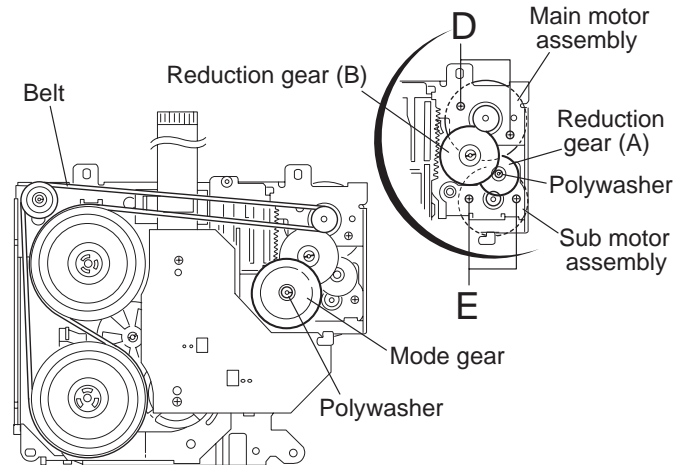

Fig.40
2.2.22 Removing the main motor assembly / sub motor assembly (See Fig.40 to 42)